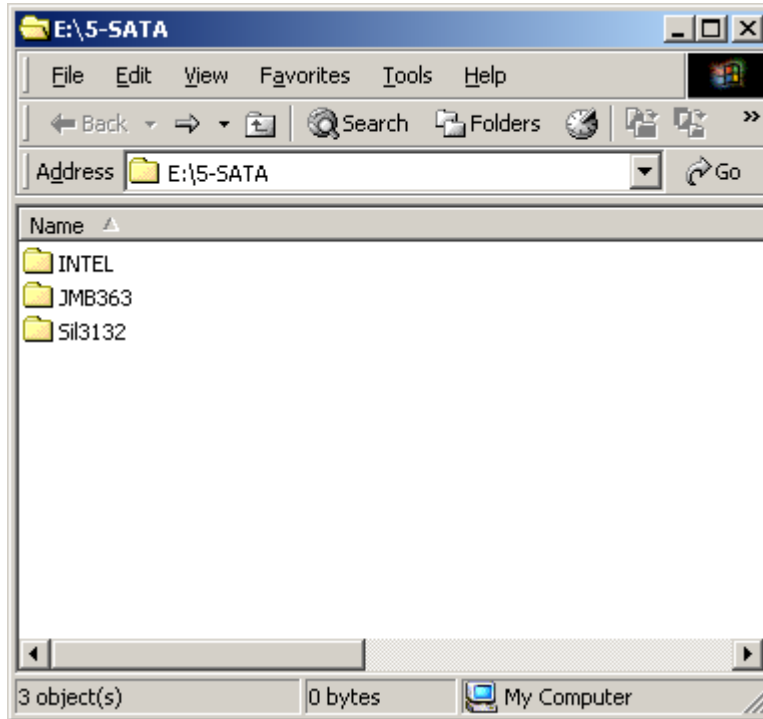

Figure 7-36: SATA RAID Driver Installation Program
Step 2: A new window opens (**Figure 7-36**).